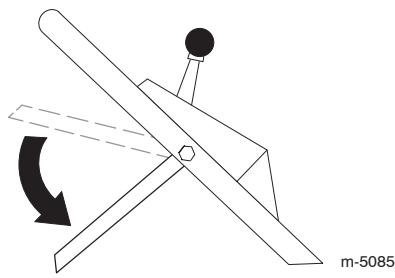

Figure 15
8. Move the blade control bail down to its lowest position (Fig. 15).
3. Push the blade control bail (Fig. 15) down to its lowest position.